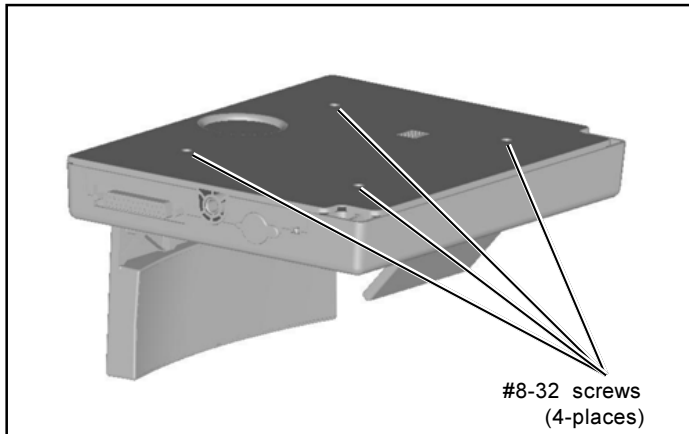

Figure 5 Base #8-32 Mount
**Base #8-32** - the display is recessed, or custom-mounted. See Figure 5.